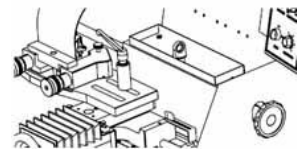

Fig.5
2). Place one of the slotted holes of the disc attachment over the stud. Add the spacer and the washer. (Figure 5) Secure the attachment using the clamp handle.